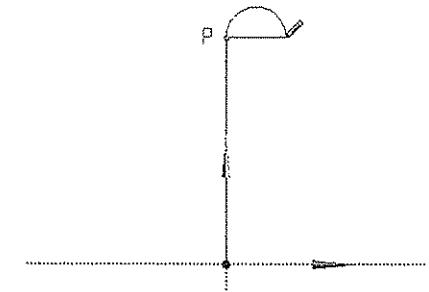

Figure 3-61 Specifying the endpoint of the arc
17. Move the cursor toward right to some distance and click to specify the end point of arc 1; the arc is created, as shown in Figure 3-61.
You can create a tangent line by using the **Tangent Line** and **Line by 2 Tangents** tools. To create a tangent line using the **Tangent Line** tool, choose this tool from the **Draw** toolbox; the cursor will change to the Draw cursor. Next, select a curved sketch; the preview of the line will be displayed attached to the Draw cursor. Next, specify the end point of the line to define the length of the line, refer to Figure 3-61. You can also create lines by using the **Line by 2 Tangents** tool. To do so, invoke this tool from the **Draw** toolbox and select two existing curve sketched entities; the tangent line will be created. In case more than one tangent locations are available on the selected entities, the tangent line will be generated using the tangent location nearest to the point of selection.